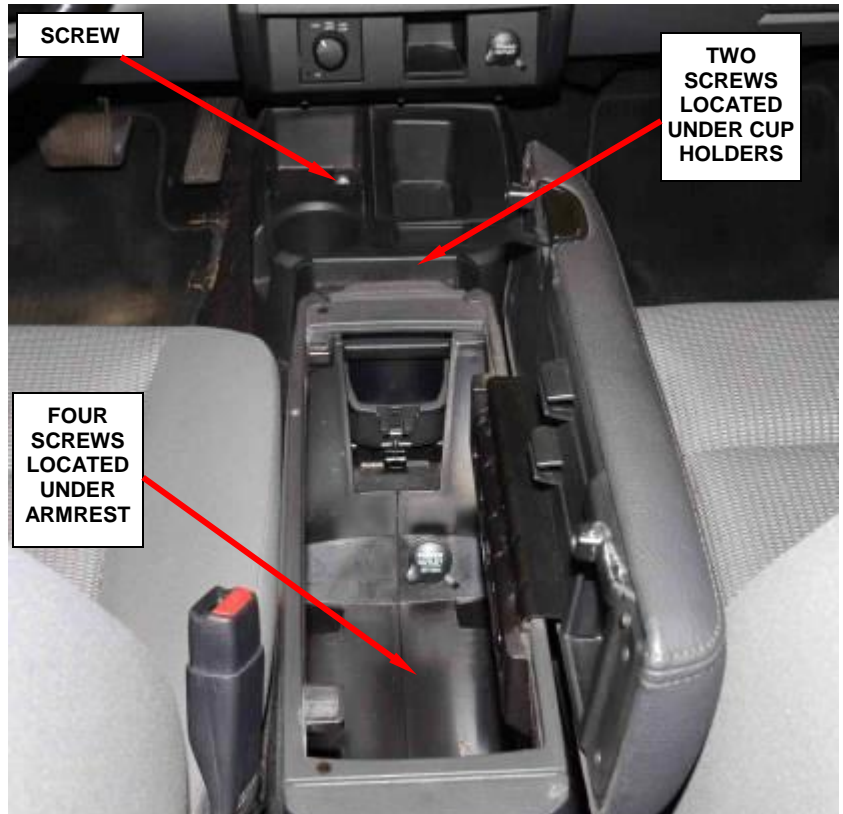

Figure 48 – Floor Console (ATX Shown)
- d. Remove the screws that secure the floor console to the floor panel (Figure 48).